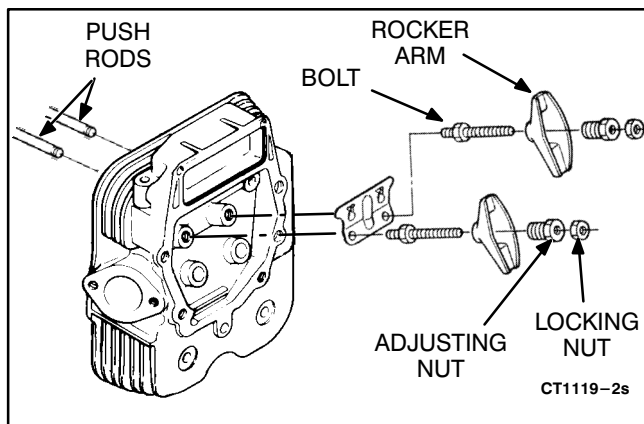

FIGURE 10-4. ROCKER ARM AND PUSH ROD REMOVAL
1. Remove the rocker arm mounting nuts. Remove the rocker arms and push rods (Figure 10-4).